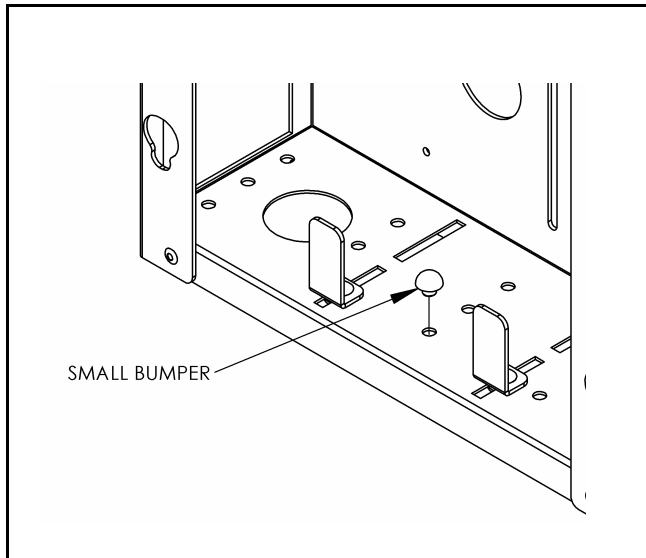

Figure 5
3. Attach small bumpers (C), making sure the CPU will rest against the bumpers when installed. (See Figures 5 & 6)